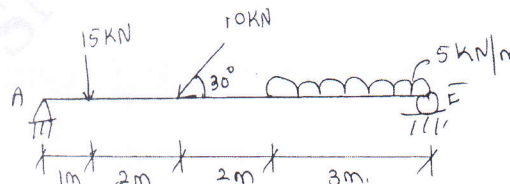

Fig.Q.6(b)
- Calculate the reactions @ A & E. [Refer Fig.Q.6(b)] (10 Marks)